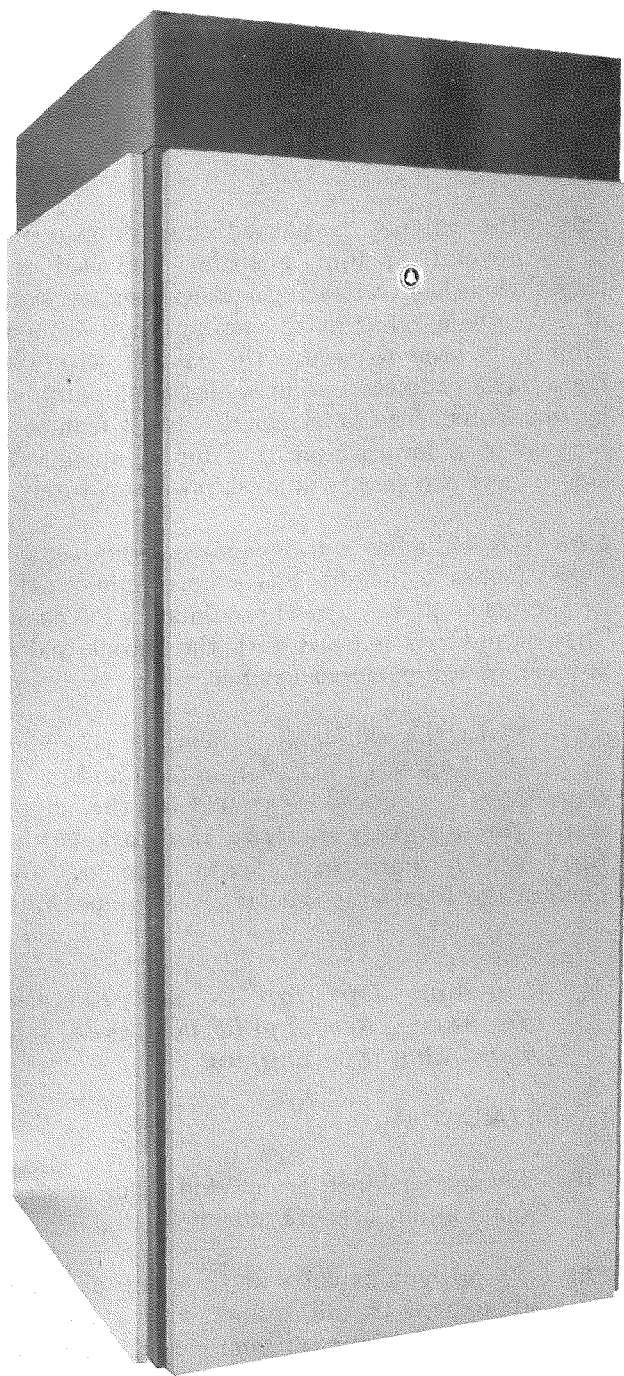

**Fig. 1—Envelope Holder Installed**
**1.07** A set of schematic drawings and circuit description sheets are furnished with the switching equipment. An envelope holder assembly (ED-1E037-70, group 7) is available for storing these drawings in the front panel (Fig. 1).